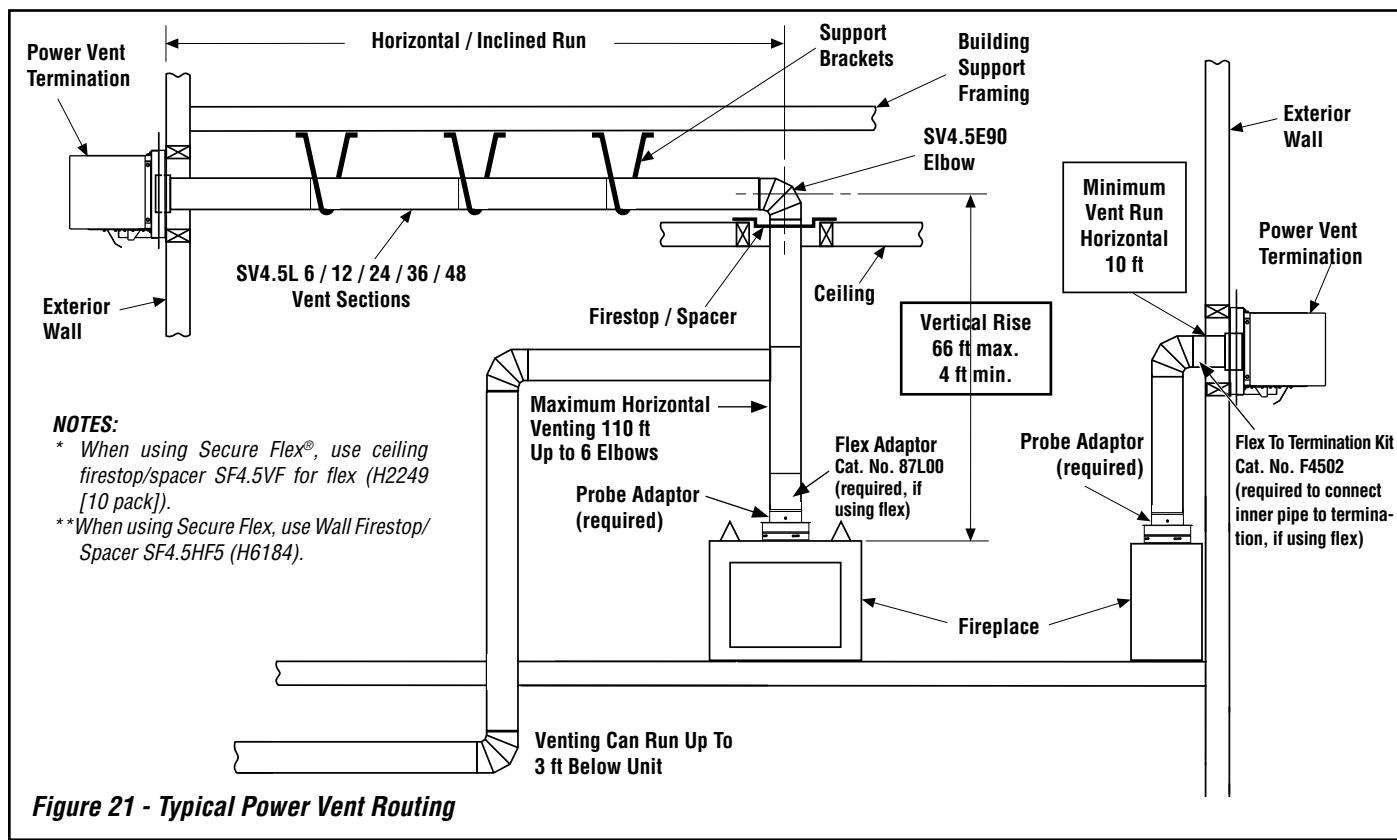
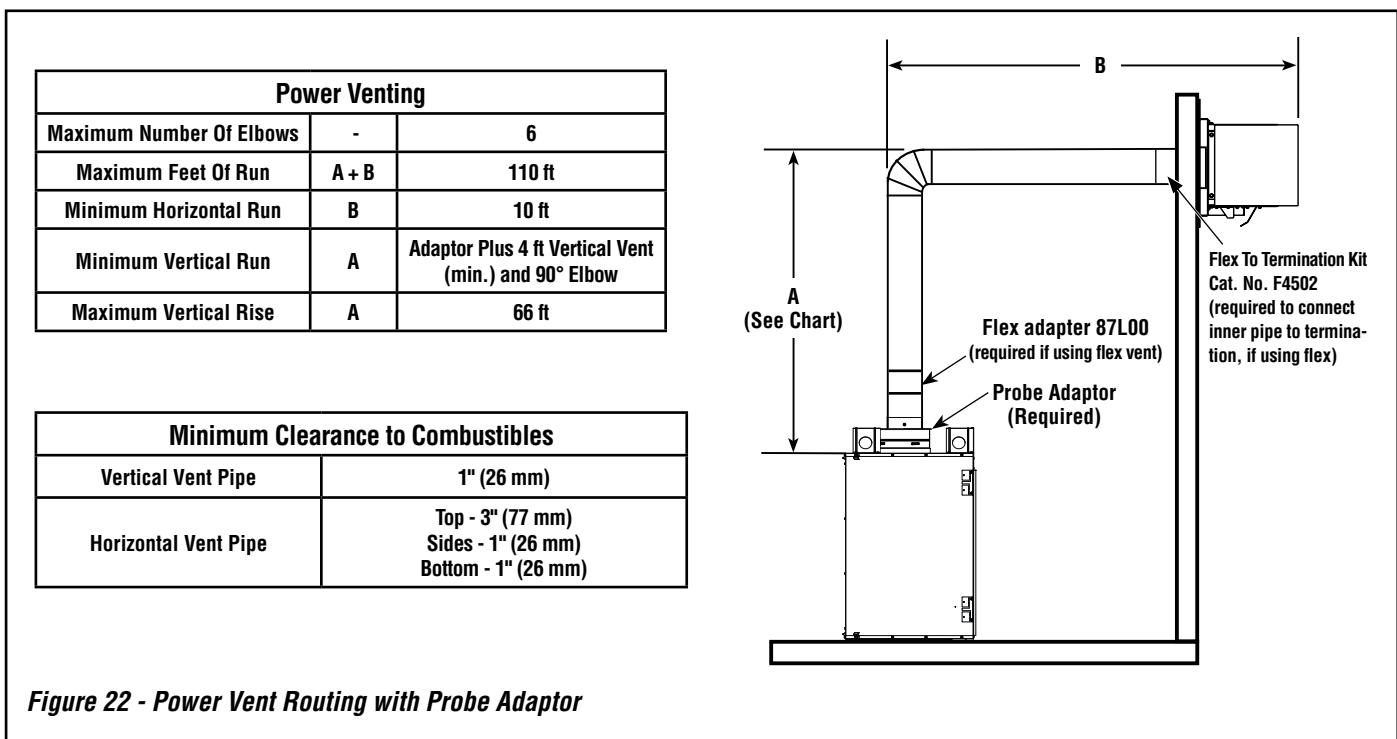

Figure 21 - Typical Power Vent Routing
Figure 22 - Power Vent Routing with Probe Adaptor
C. Attach vent components to each other. Other vent sections may be added to the previously installed section in accordance with the requirements shown in *Figures 21 and 22 on Page 19*.
G. Continue installation of horizontal/inclined sections. Continue with the installation of the straight vent sections in horizontal/inclined run as described in **Step C**. Install support straps every 3' (914 mm) along horizontal/inclined vent runs using conventional plumber's tape (*see Page 19, Figure 21*).
See Figures 21 and 22 on Page 19 illustrating the various horizontal venting configurations that are possible for use with these appliances. The table in **Figure 22 on Page 19** shows each system's minimum and maximum vertical and horizontal length values that can be used to design and install the vent components in a variety of applications.
See **Figure 21 on Page 19**.